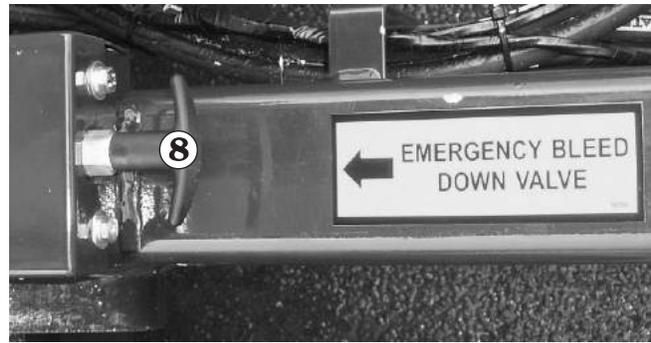

Figure 9.6 - Manual Bleed Down Control
6. If the platform will not lower, the person on the ground will need to use the manual bleed down ⑧ (see Figure 9.6) located at the front of the chassis. To lower the platform pull on the cable ⑧ until the platform is fully lowered.